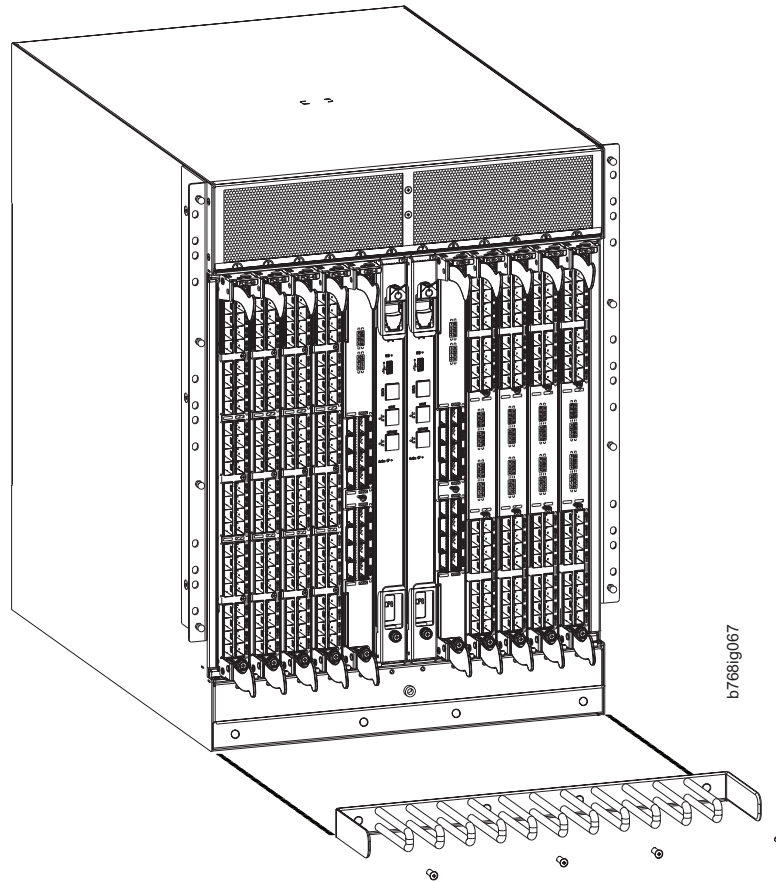

Figure 28. Cable management comb
3. Unscrew and save the four screws holding the comb to the chassis (see Figure 28). Support the comb to prevent it from falling.